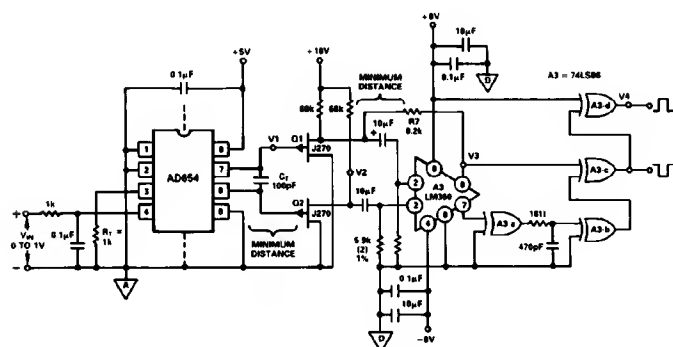

Figure 13. 2 MHz, Frequency Doubling V/F
Figure 13 illustrates this with a circuit offering 2 MHz full scale. In this circuit the AD654 is operated at a full scale (FS) of 1 mA, with a  $C_T$  of 100 pF. This achieves a basic device FS frequency of 1 MHz across  $C_T$ . The P channel JFETs, Q1 and Q2, buffer the differential timing capacitor waveforms to a low impedance level where the push-pull signal is then ac coupled to the high speed comparator A2. Hysteresis is used, via R7, for non-ambiguous switching and to eliminate the oscillations which would otherwise occur at low frequencies.
will also help stability. Figure 14 shows the waveforms V1-V4 found at the respective points shown in Figure 13.